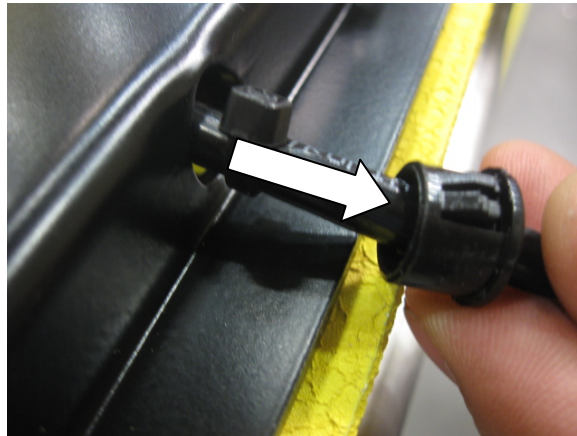

FIGURE 4-26. DETACH GROMMET
- 3) Refer to **Figure 4-26**. Detach and retain grommet from bridgeplate frame.